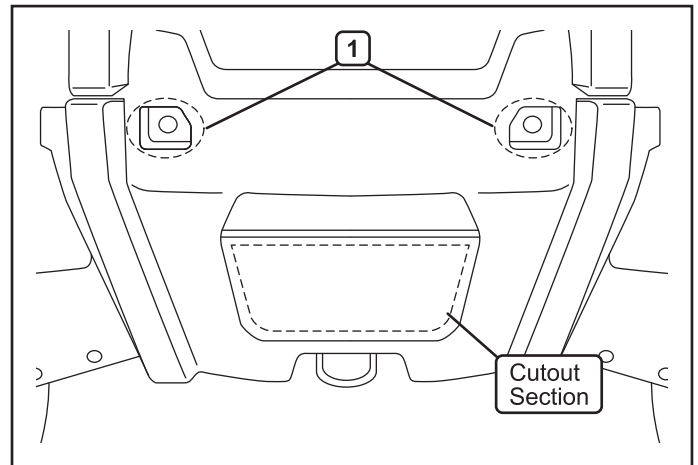
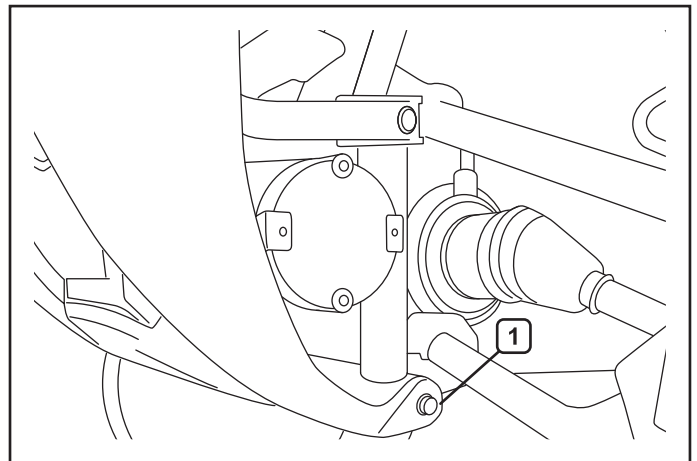

Figure 1. 400/450/500/570/800
Figure 3. 550/850 XP
3. Remove the front plastic by removing hardware marked (1) as seen in figures 1, 2 and figure 3
- Cut out plastic section shown in figure 1.